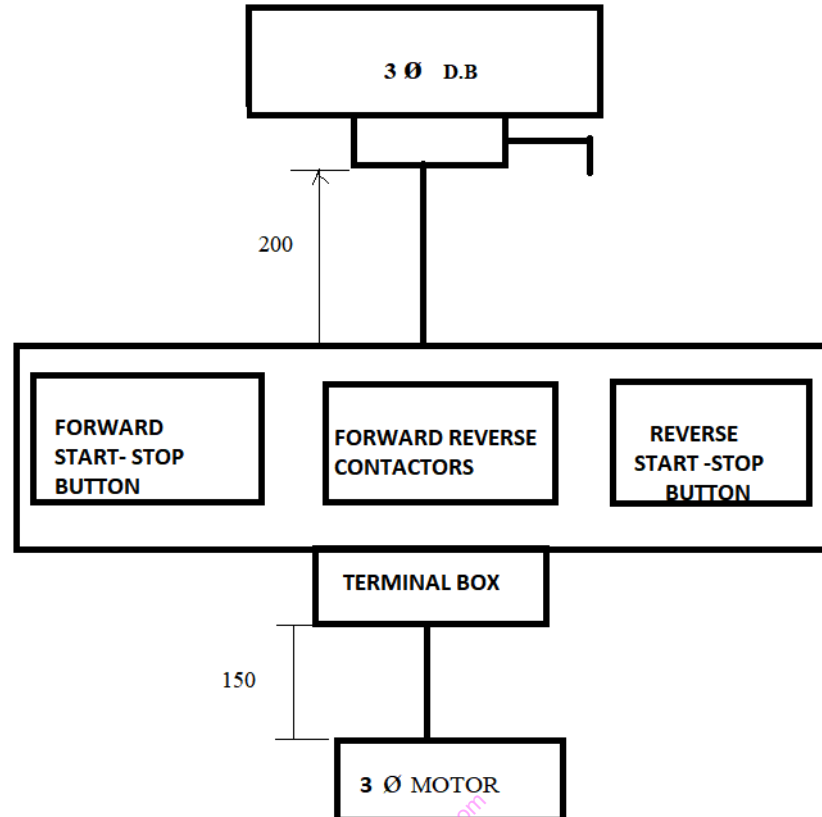

Figure 1
1. Figure 1 shows a layout of a three-phase induction motor starter. You are required to perform the following tasks